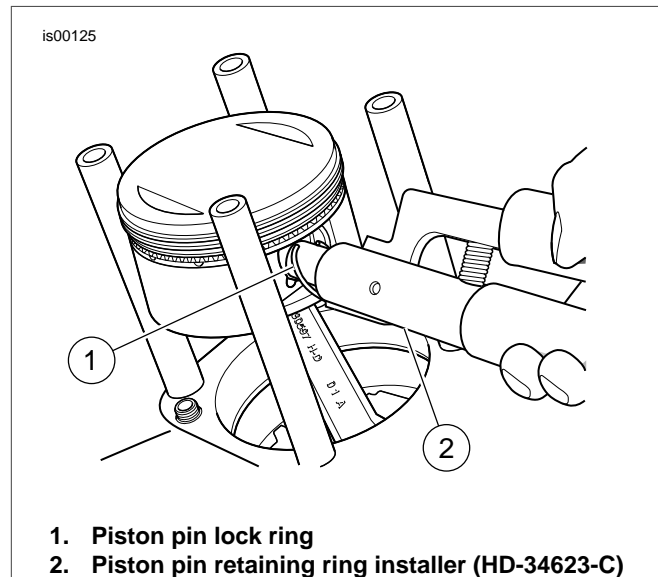

Figure 3. Seating Circlip
2. See Figure 3. Insert the circlip (1) onto the Piston Pin Retaining Ring (circlip) Installer (2).